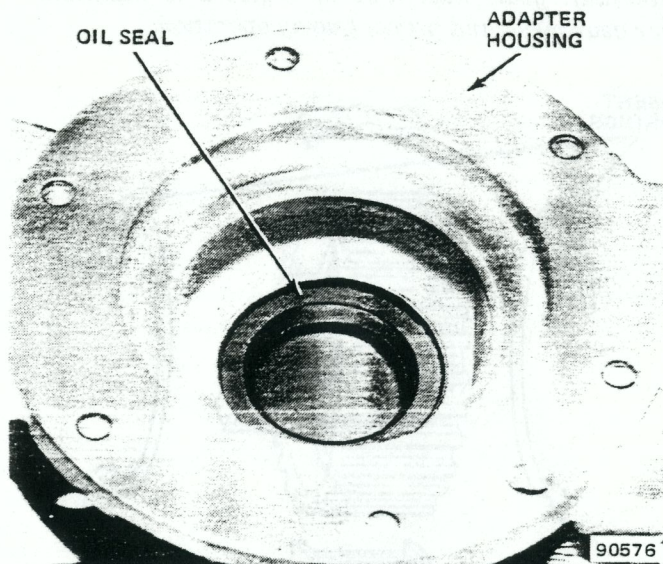

Fig. 2B-20 Adapter Housing Oil Seal Installation
(18) Remove adapter housing oil seal using punch or screwdriver. Install new seal so metal face of seal is flush with or slightly below edge of seal bore in housing (fig. 2B-20).
CAUTION: The two top cover dowel bolts must be installed in the proper location to maintain cover alignment and prevent hard shifting. Refer to figure 2B-6 for correct bolt location.